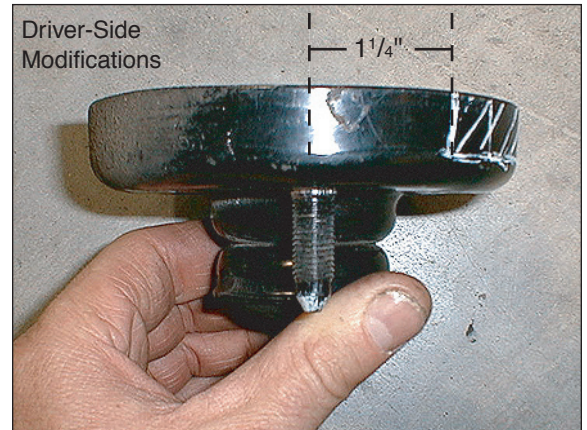

Figure 6
2. A slot must be made in the top strut mount for the fitting. Hold the strut mount with the stud at the top and facing you. Strike a vertical mark at $1\frac{1}{4}"$ and a mark at $2\frac{3}{4}"$. Measure clockwise for the markings on the left side and counter clockwise when marking the right side. Figures 6 and 7 show the left side.